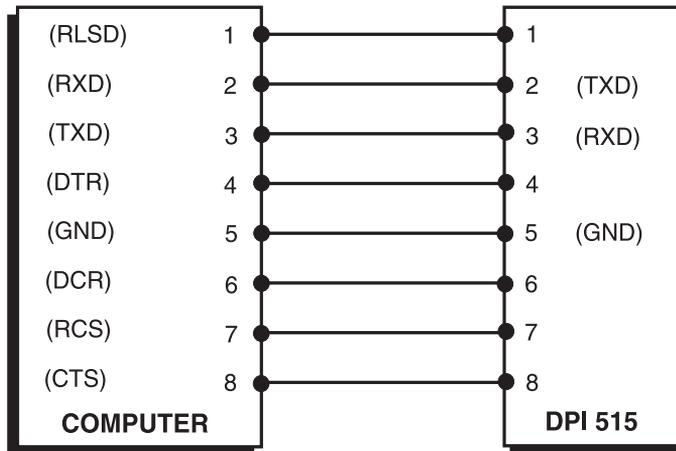

Figure 2-8, RS232 9-way connections (Software Handshaking)
- Connect the cable between the computer communications port and the instrument's 9-way, D-type, RS232 port connector as shown in Figure 2-8.